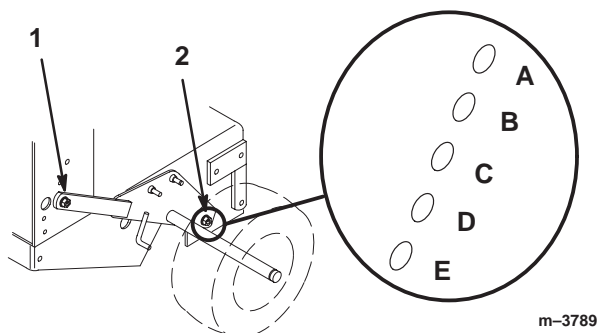

Figure 24
- Loosen, but do not remove, the 2 axle pivot bolts and the 2 axle adjustment bolts (Fig. 24).
- Place a jack under the rear center of the engine frame. Raise the back end of the engine frame up enough to remove the front 2 axle adjustment bolts (Fig. 24).
- Raise or lower the engine frame with the jack so that you can install the front 2 axle adjustment bolts in the desired hole location (Fig. 24).